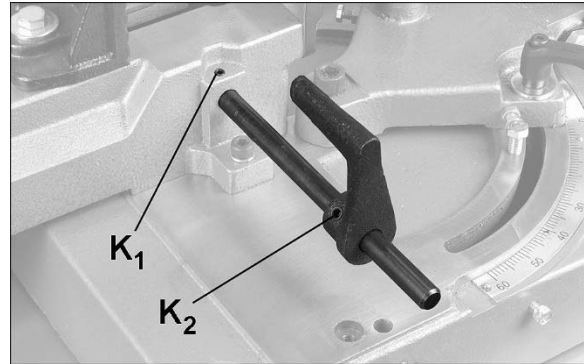

Figure 5-5
1. Insert stock stop rod (Figure 5-5) into hole at front or rear of base, as shown.
2. Secure rod by tightening socket set screw (K₁, Figure 5-5) with 3mm hex wrench.